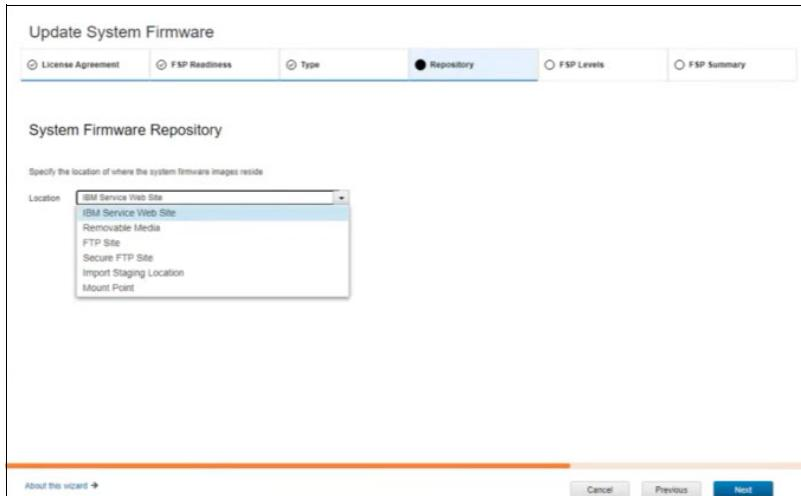

Figure 2-51 System Firmware Repository window
5. The System Firmware Repository window opens (see Figure 2-51). Select from one of the following locations for the repository: